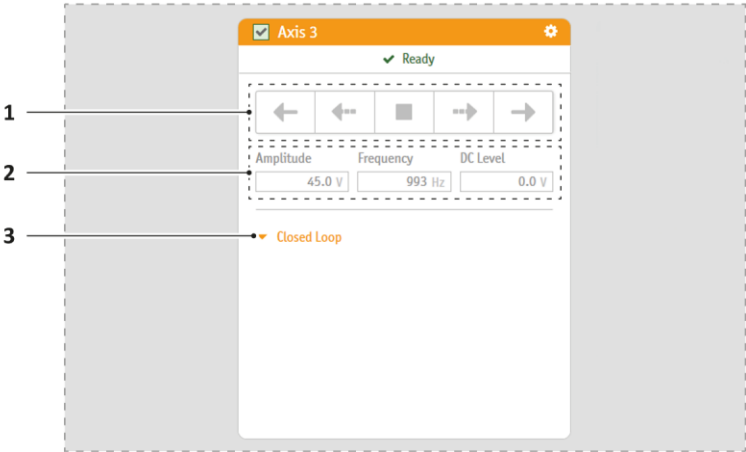

Figure 14 Axis tile, open-loop positioning elements
**How** The following fields are available for the setting of the motion parameters (Figure 14/2).
- How** The following control elements (Figure 14/1) are available for movement control.
- To open the closed-loop positioning control elements, click [Closed Loop] (Figure 14/3) on the axis tile's operation view.